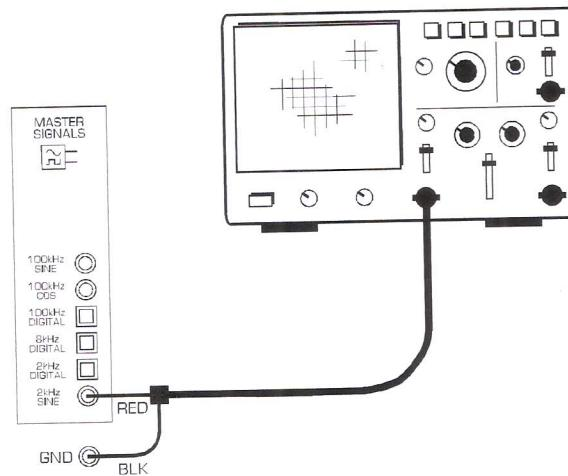

Figure 1
2. Connect the set-up shown in Figure 1 below.